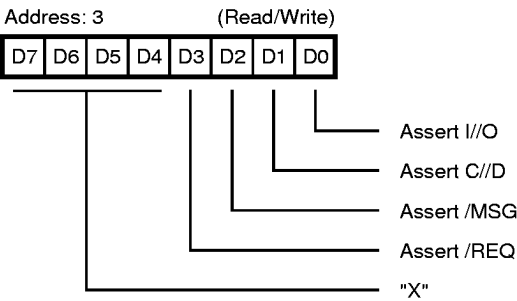

Figure 9. Target Command Register
Target Command Register. *Address 3* (Read/Write). When connected as a target device, the Target Command Register (Figure 9) allows the CPU to control the SCSI Bus Information Transfer phase and/or to assert /REQ by writing this register. The Target Mode bit (Mode Register, bit 6) must be True (1) for bus assertion to occur. The SCSI Bus phases are described in Table 2.